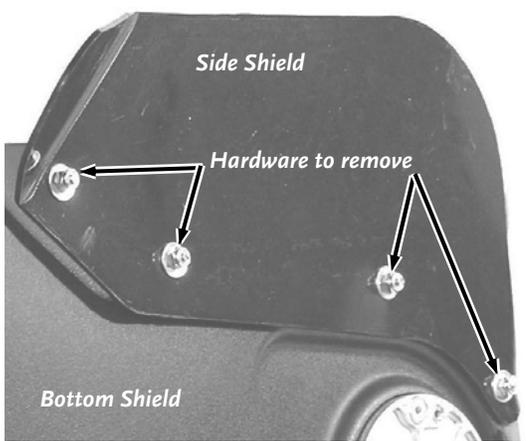

Figure 39
1. Using a 3/8" Wrench or Socket (topside) and a 7/16" Wrench or Socket (underneath), remove the four mounting Bolts, Nuts and Washers that retain the Side Shield (**Figure 39**) and discard the old Shield.